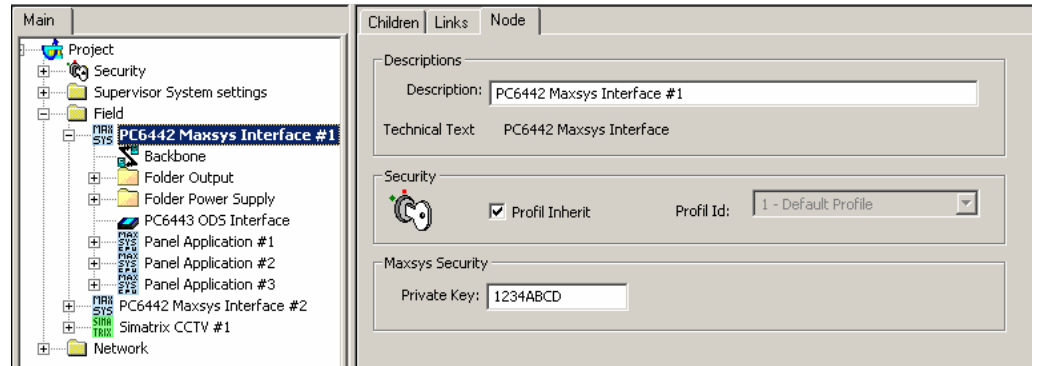

Fig. 12 Setting the MAXSYS encryption key
- This is an 8-character field that should match the hexadecimal value set in the PC6442 unit (Fig. 12).